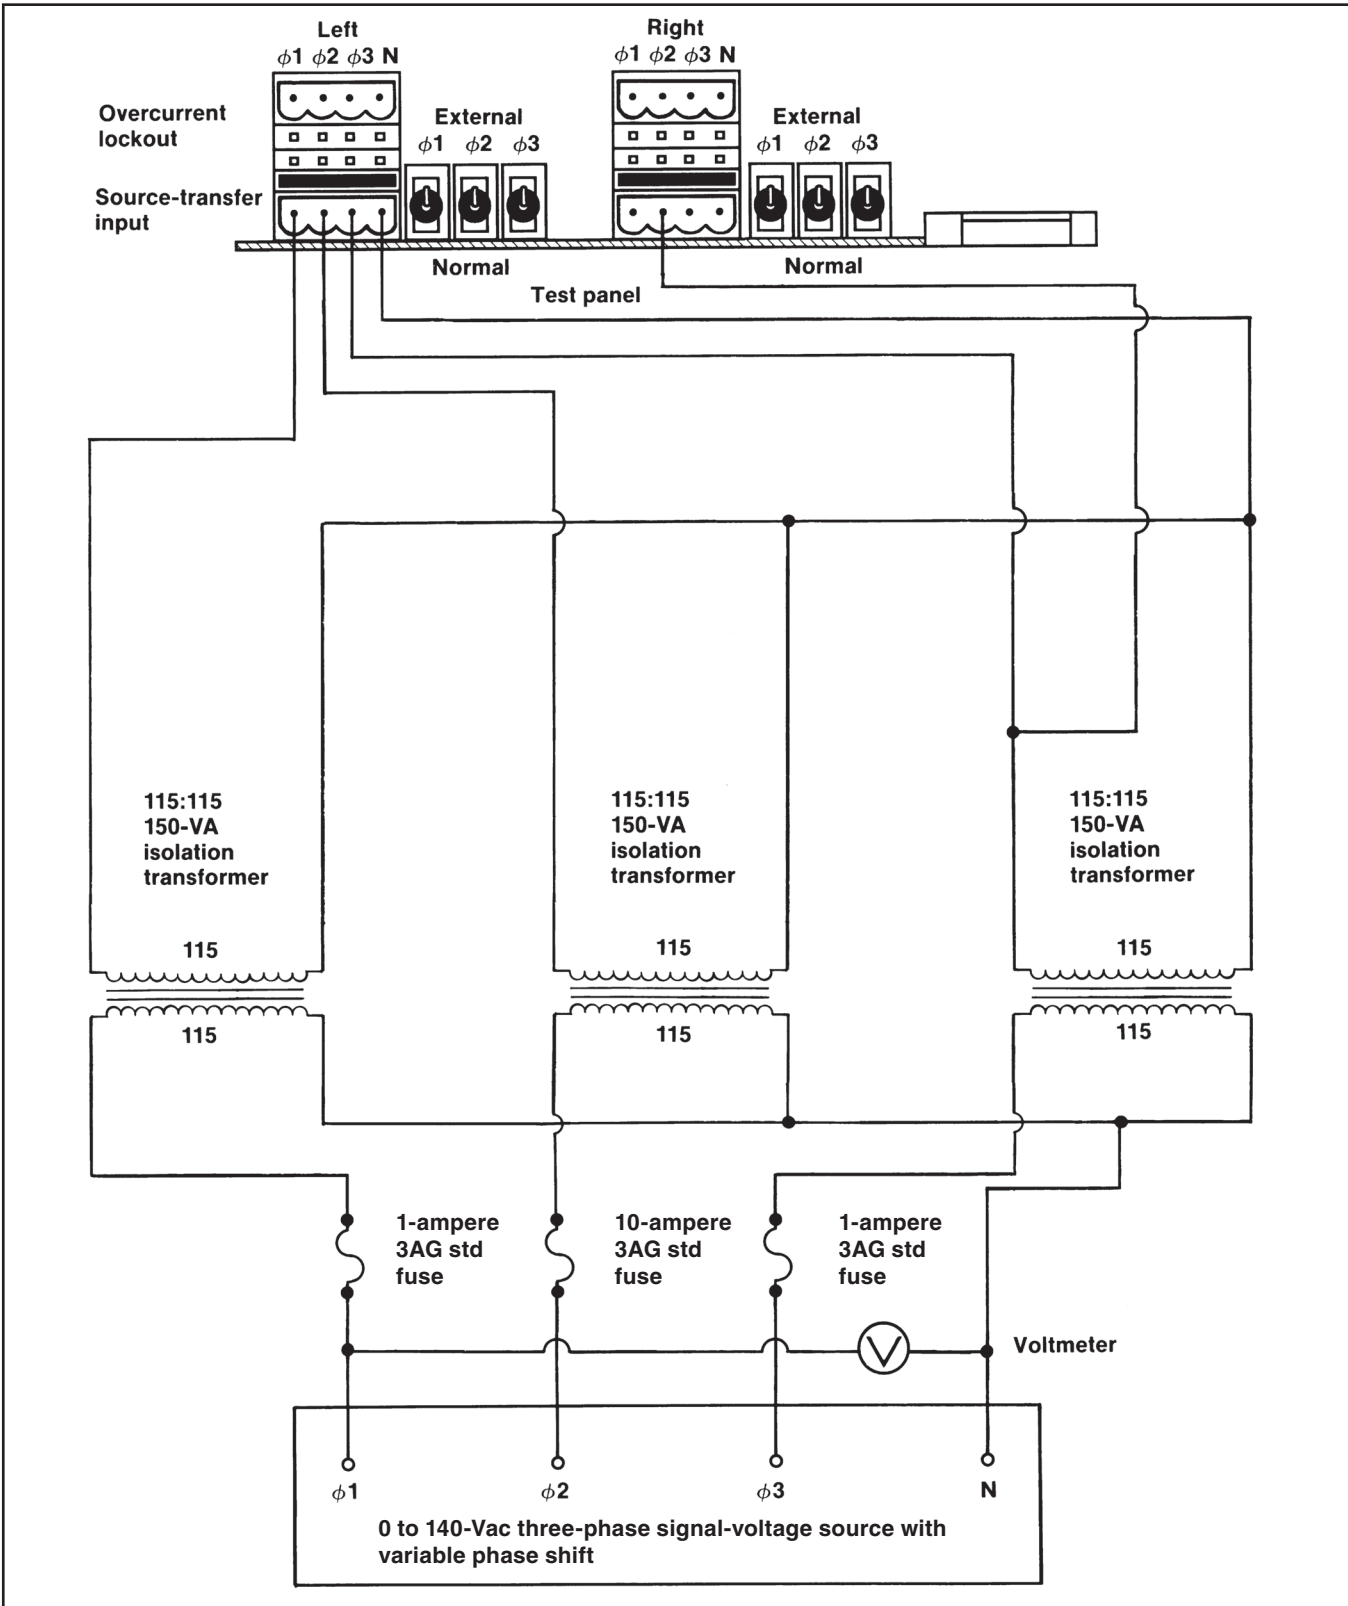

Figure 8. A three-phase source test-circuit connection diagram for Vista switchgear applications.
- STEP 5.** Place the EXTERNAL/NORMAL selector switches on the test panel for the left source and the right source in **External** mode. See Figure 8 on page 20.
STEP 6. *If a 0 to 140-volt, 60-Hz three-phase signal-voltage source with variable phase shift is available:* Make up the three-phase source test-circuit connections as shown in Figure 8 on page 20.
STEP 16. *If the three-phase source test circuit shown in Figure 8 on page 20 is used, repeat Steps 11 through 15 for Phase 2 and then for Phase 3.*
The steps in this testing section can be performed only if the three-phase source test circuit shown in Figure 8 on page 20 is used. *If a single-phase source test circuit is used, proceed to Step 23.*